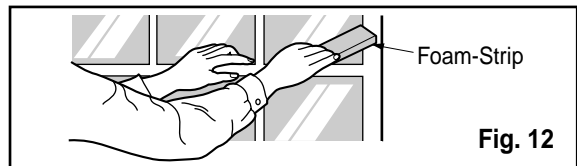

Fig. 12
8. Cut the Foam-strip to the proper length and insert between the upper window sash and the lower window sash. (See Fig. 12)